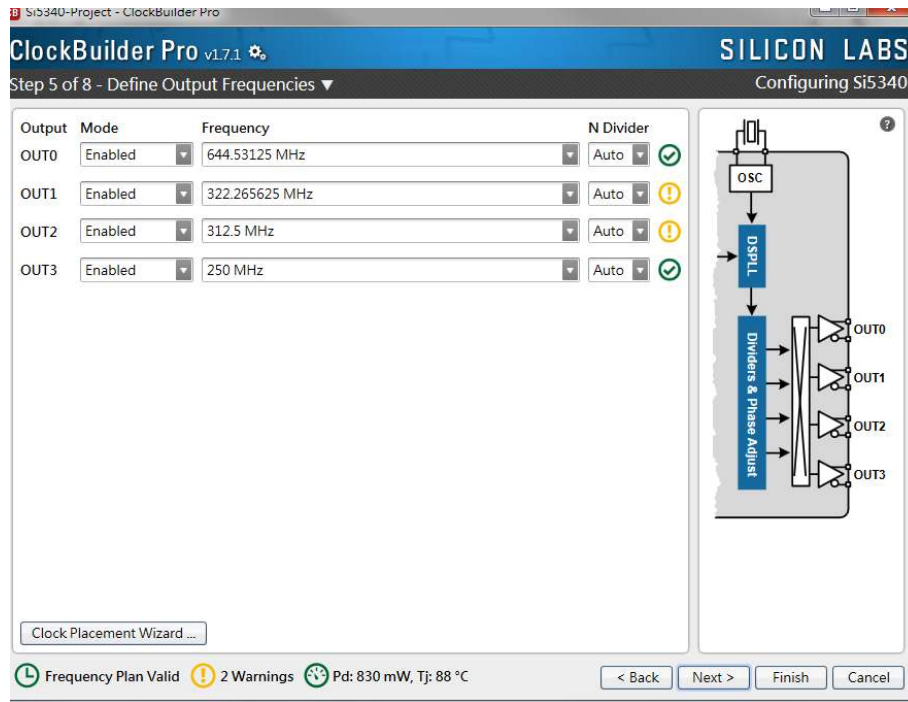

Figure 5-7 Define Output Clock Frequencies on ClockBuilder Pro Wizard
2. After the installation, select Si5340, and configure the input frequency and output frequency as shown in **Figure 5-7**.